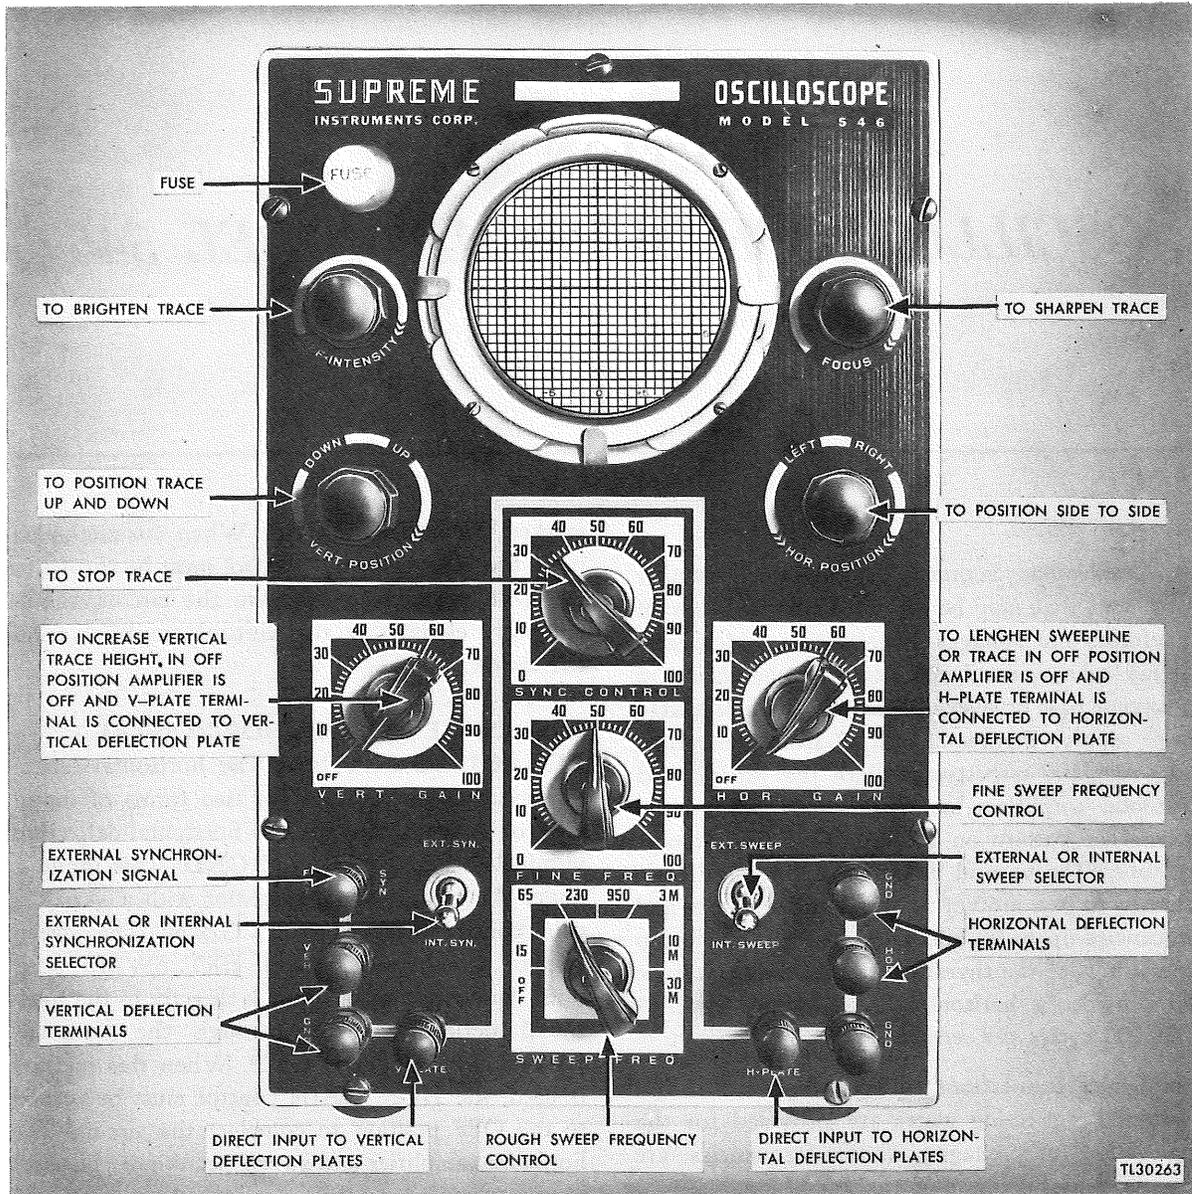

Figure 28. Oscilloscope, Supreme model 546, panel view.
a. Oscilloscope Supreme model 546 is another instrument that may be provided for the study of waveforms and voltages. It contains a 3-inch cathode-ray tube, vertical and horizontal amplifiers, a linear time base or sweep generator, and a regulated power supply. Figures 28 and 29 are a photograph and schematic, respectively. Both the vertical and horizontal amplifiers are designed to produce an undistorted pattern on the screen of the cathode-ray tube. The vertical amplifier is especially compensated to pass a 60-cycle square-wave voltage and frequencies up to 90 kilocycles. The internal-sweep generator is of the thyatron gaseous-discharge type and provides a horizontal linear sweep from 15 to 30,000 cycles per second.
a. Oscilloscope Supreme model 546 provides for two forms of input to the vertical deflecting plates. One input arrangement is through the vertical-deflection input terminals indicated as VER and GND in figure 28. This input is under the control of an amplifier with a variable-gain control marked VERT. GAIN.